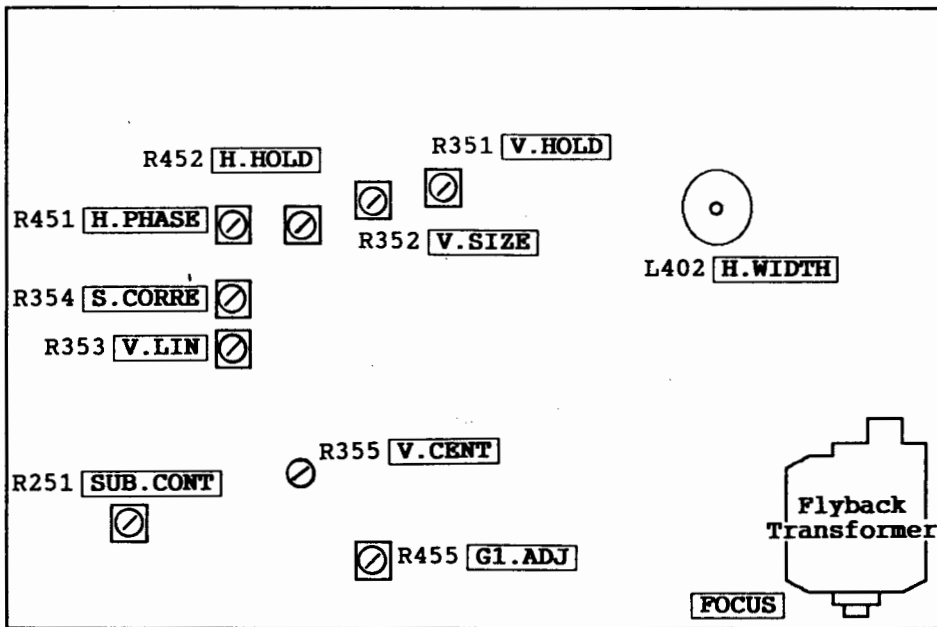

Fig. 3.4.4.1 Location of Controls on CRT Main Board
(1) Access to controls
- (c) Find various controls as shown in Fig. 3.4.4.1. Also find coil **L402** [H.WIDTH]. PWD-1051A is mounted on the CRT socket.